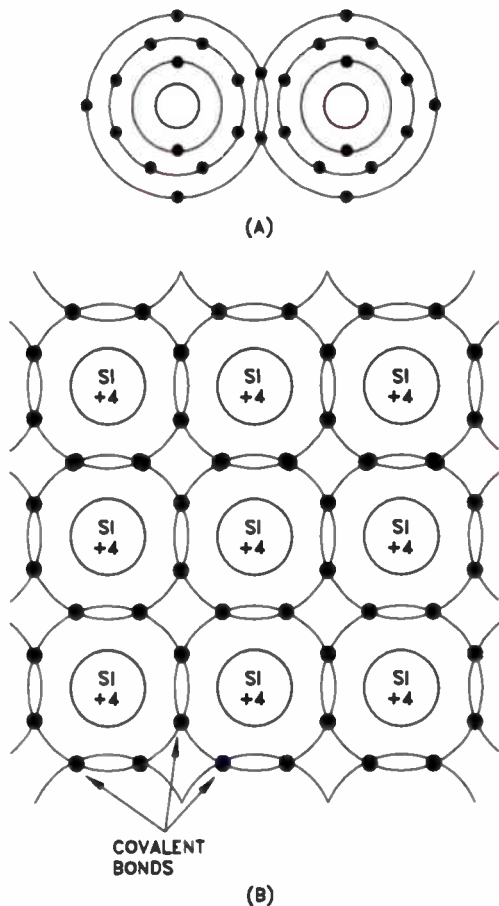

Figure 2. (A) Sharing of two electrons by two silicon atoms and (B) covalent bonds produced in a silicon crystal.
The outer shells of silicon and germanium are not completely filled with electrons. As a result, the chemical nature of these atoms is to acquire additional electrons. However, one atom cannot pull electrons away from another atom. Instead, nearby atoms will share electrons. Two silicon atoms will share two electrons by *bonding*, one from each atom, as shown in Fig.2(A) on the next page. By sharing electrons in this way, each atom partly fills its outer shell. This pair of shared electrons is called a *covalent bond*.
This bonding process goes further. To fill its outer ring with electrons, a single silicon atom will establish covalent bonds with four other atoms so that each atom's outer ring has 8 electrons. This arrangement of atoms in a piece of silicon is shown in Fig.2(B). Billions of silicon atoms bond into crystal form and arrange themselves into a lattice structure. Each atom shares its four valence electrons with one valence electron from each of its four neighboring atoms to form these covalent bonds.